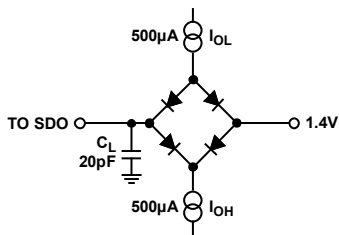
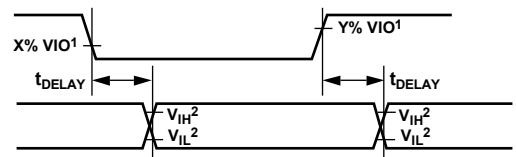

Figure 2. Load Circuit for Digital Interface Timing
Figure 3. Voltage Levels for Timing
-55°C to +125°C, VDD = 2.37 V to 2.63 V, VIO = 3.3 V to 5.5 V, unless otherwise stated. See Figure 2 and Figure 3 for load conditions.